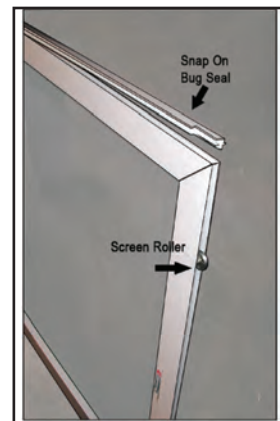

Fig. 20
- 2) Snap Bug Seal (S) onto screen. (Fig. 20)